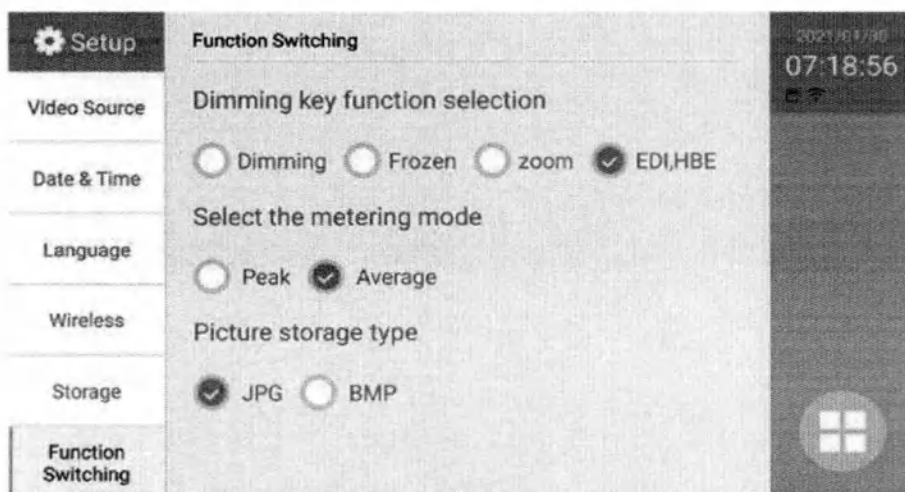

Fig3.15
3.2.8.1. Under the main menu, press the "function switch" button. Enter the function switch setting interface, and select "EDI, HBE" below it (as shown in Figure 3.15). Then return to the preview interface.